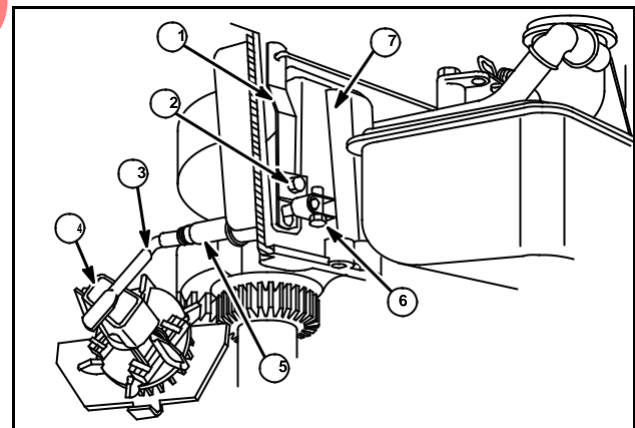
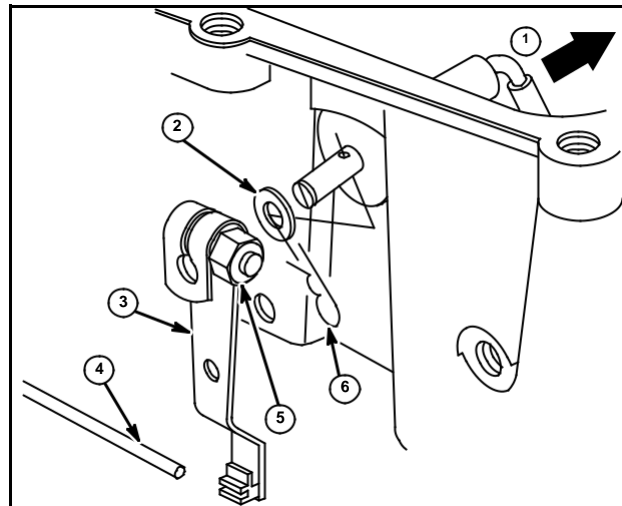

Fig. 45
Fig. 46
Model Series 91700, 94500, 94900, 95500, 111700, 113900, 114700, 114900 Early Style, Fig. 45
2. (Current Style): Loosen governor lever bolt and nut (5). Slide lever (3) off governor crank (1) and snap out governor link (4), then remove cotter pin (6) and washer (2) from governor crank. (Early Style) Fig. 45: Remove lever adjusting screw (2) and loosen lever clamp screw (6). Slide off clamp, then lift up on governor lever (1) to release lever from slot in governor crank (3).
4. Remove governor crank, Fig. 46 (current), Fig. 45 (early).
1. Press old governor shaft bushing (5), Fig. 45, out of cylinder.
2. (Current Style): Slide washer (2) onto governor crank and install cotter pin (6). Slide governor lever (3) onto governor crank and tighten bolt and nut (5) on lever until crank turns with resistance. Turn crank counterclockwise until paddle contacts governor cup on oil slinger, Fig. 46, and snap governor link (4) into retainer on governor lever.
3. (Early Style): Slide governor (1) lever on governor crank (3) and slide lever down onto shaft slot. Install lever clamp and torque lever clamp screw (6) to 15 in. lbs. (2 Nm). Install governor gear and oil slinger assembly making sure governor crank (3) is against governor cup (4), Fig. 45.
1. Move throttle control to wide open throttle position, Fig. 45.